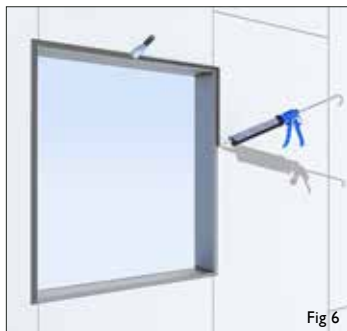

Fig 6
1. Pre-fill joints, gaps and cracks >6mm with a bead of Wraptite LF Black and allow to cure fully. (Fig.6)